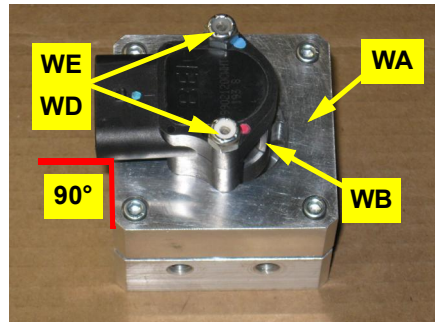

Figure 1a: Prepared WAS housing/connector
- Using the provided hardware **WE** (nuts) and **WD** (bolts - not shown), attach the WAS wire connector **WB** to the WAS housing **WA**. Install the bolts up through the bottom of the housing. The WAS wire connector **WB** can be mounted 90° to any of the WAS housing **WA** sides (Figure 1a).